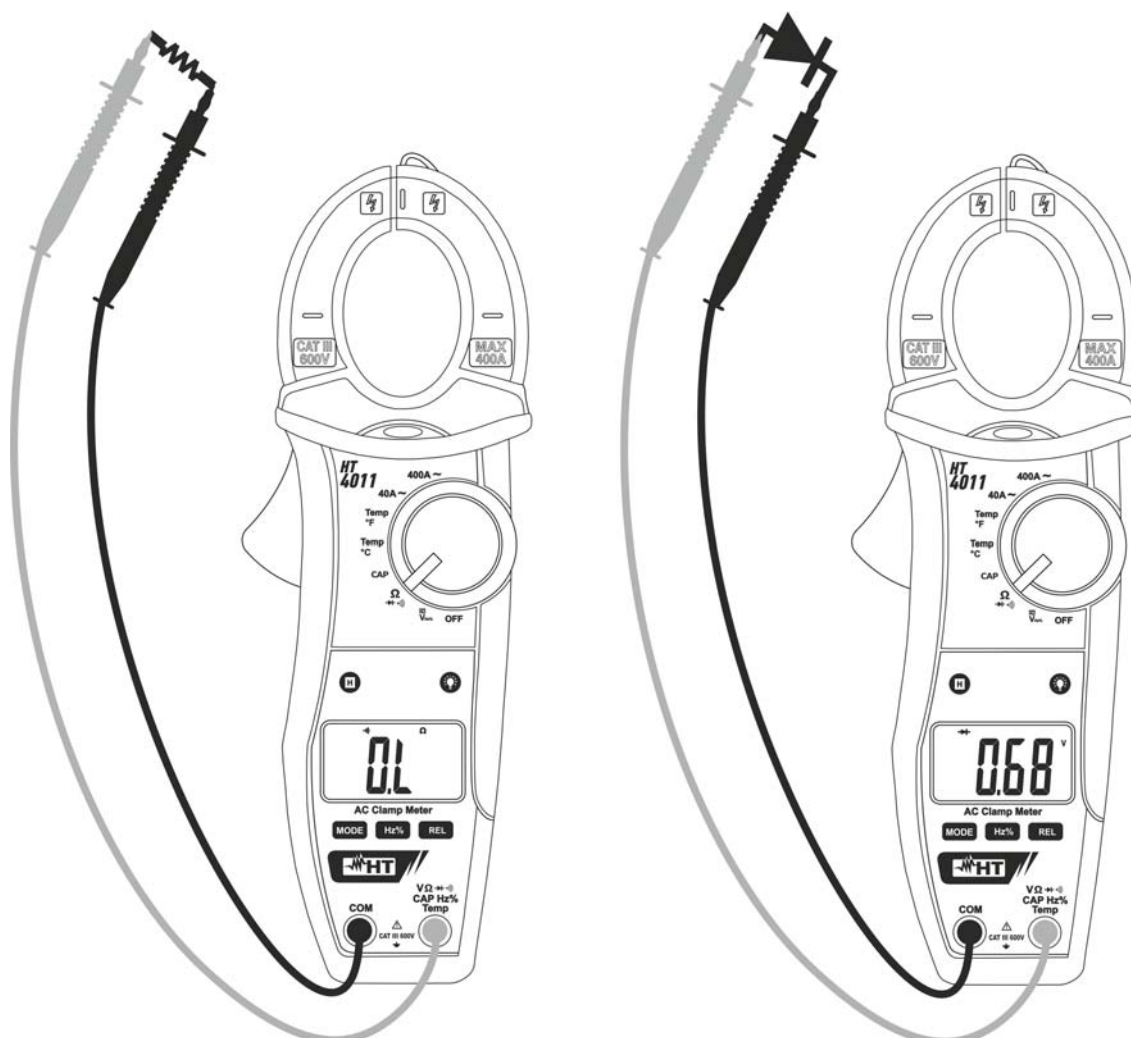

Fig. 7: Use of the clamp for continuity test and diode test
3. Insert the red cable into input terminal **VΩ $\rightarrow$  CAP Hz % Temp** and the black cable into input terminal **COM** and carry out the continuity test of the object to be measured (see Fig. 7– left side). An buzzer sounds when the measured value of resistance is lower than 150Ω
5. Connect the red lead to the anode of the diode and the black lead to the cathode in case direct polarization measurement is carried out (see Fig. 7 – right side). Invert the position of the leads in case reverse polarization measurement is carried out.